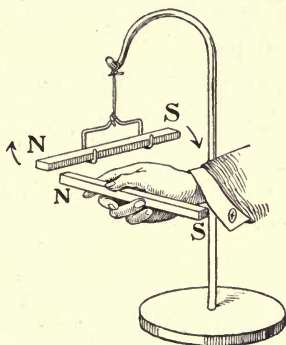

FIG. 153.—Like poles of magnets repel each other; unlike poles attract each other.
**Experiment 51.** — Suspend a bar magnet in such a way that it is free to move (Figure 153) and determine its north pole and south pole. In the same way determine the poles of another similar magnet. Now bring the North (*N*) Pole of the first magnet near the *N* pole of the second and note the result. Test the attraction of the two South (*S*) Poles for each other. Now test the attraction of the *N* and *S* Poles for each other. In the absence of bar magnets, knitting needles may be magnetized and used in the above experiment.